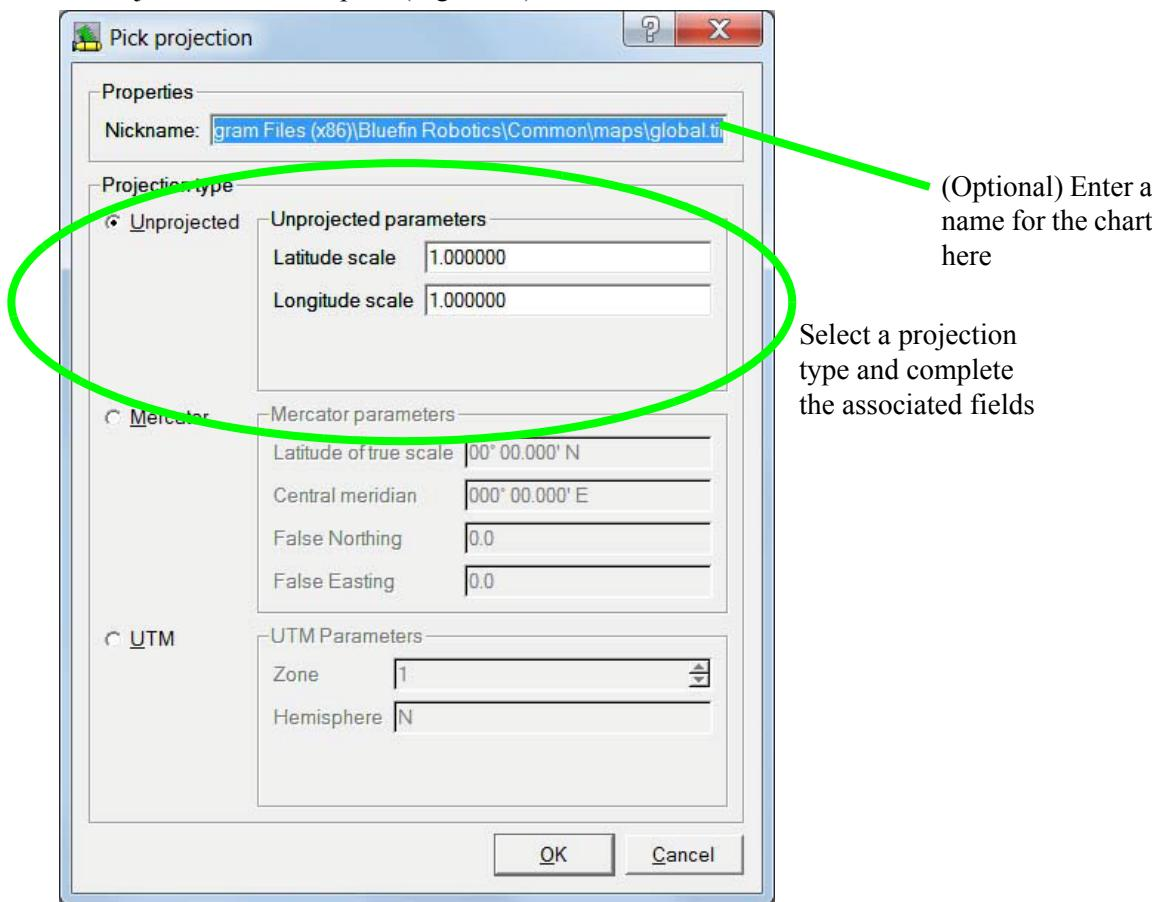

Figure 44: Projection Type Selection Window
2. The Pick Projection window opens (Figure 44).